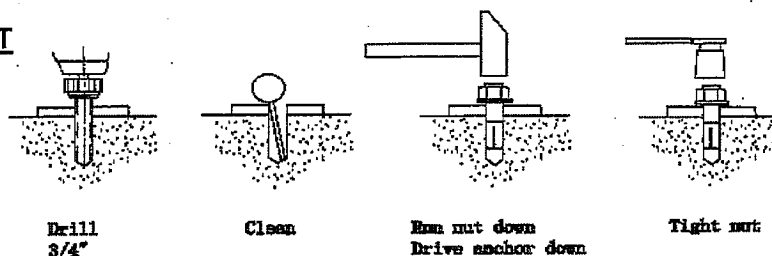

Fig. 1
4. Using the base plate on one column as a guide, drill each anchor hole in the concrete with depth equal to a minimum depth of 4" to insure maximum holding power using a rotary hammer drill and $\frac{3}{4}$ " concrete drill-bit. To assure full holding power, do not ream the hole or allow the drill to wobble. (See Fig.1)